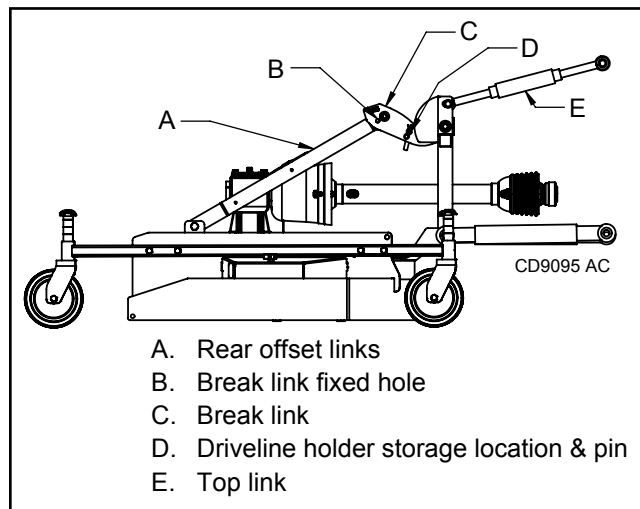

Figure 13. Top Link Adjustment
When the cutting height is set, adjust tractor top link until mower top hitch links (C) point downward between 30 and 45 degrees below horizontal. Secure tractor top link jam nut. The front tires of the mower will lift off the ground before the rear tires when raised. This will allow the mower to follow the ground contours when mowing. (See Figure 13.)